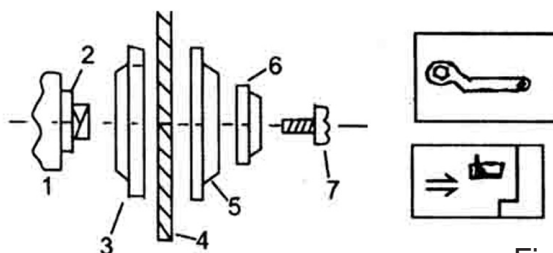

Fig. 1
3. In this order, remove the washer, the outer-flange, the shield ring, the abrasive wheel and the inner-flange (see Fig. 1).